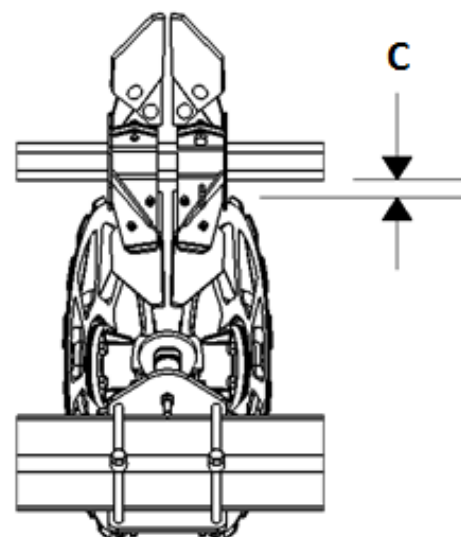

Figure 7-15: Paddle Shaft to Lifter Wheel Rim Dimension
**CAUTION:** When the harvester is equipped with rock struts, the distance (C), shown in figure 7-15, between the lifter wheels and paddle shaft must have at least 1 inch. (2.5 cm) of clearance to protect the paddle shaft from the lifter wheels in the event of contact with a rock.